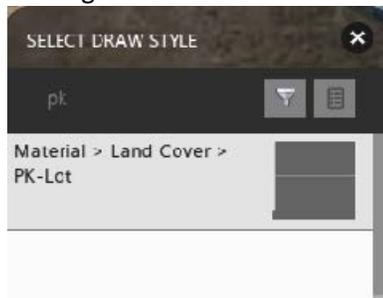

Figure 11
3. In the Select Draw Style asset card that displays, type **PK** and select **PK-Lot**, as shown in Figure 11.